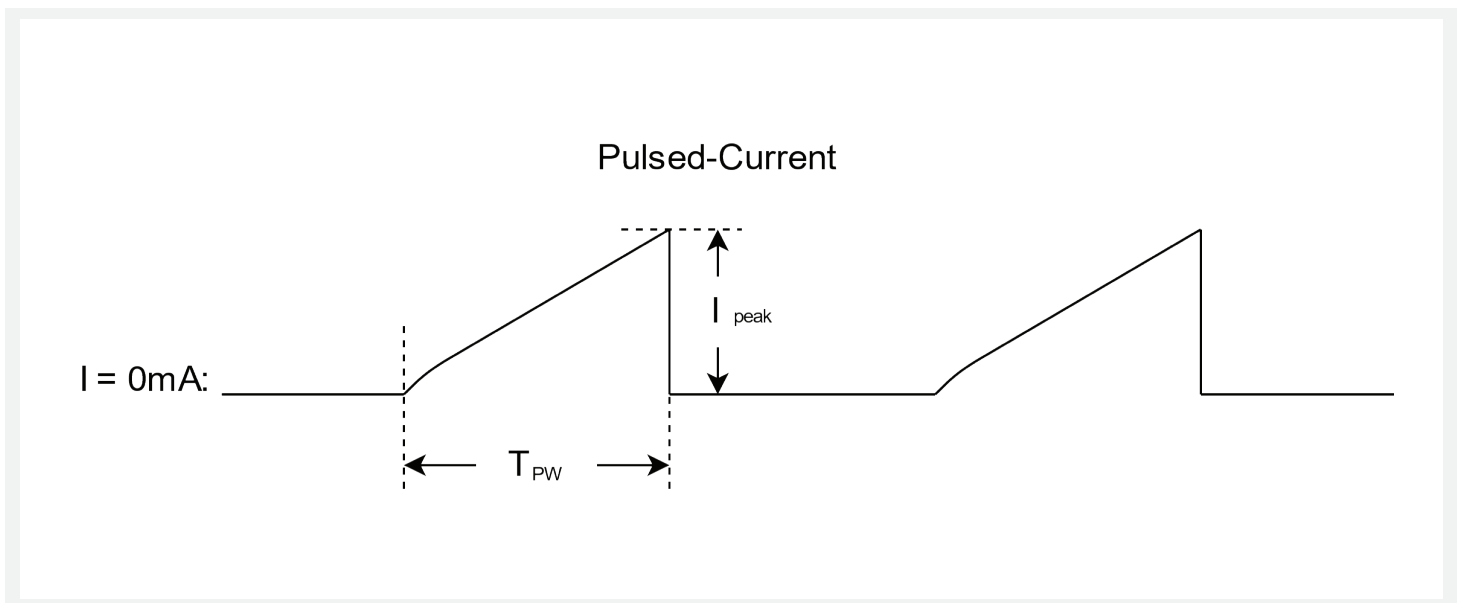

Figure 8 Typical pulsed-current waveform for pulse widths in the specified range
2. Typical pulsed-current waveform is shown in Figure 8. At each listed bias voltage in this table,  $I_{\text{peak MIN}}$  corresponds to  $T_{PW-MIN}$  and  $I_{\text{peak MAX}}$  corresponds to  $T_{PW-MAX}$ . For bias voltages 10V and 5V, peak instantaneous current can exceed maximum values if pulse width exceeds the specified maximum value.